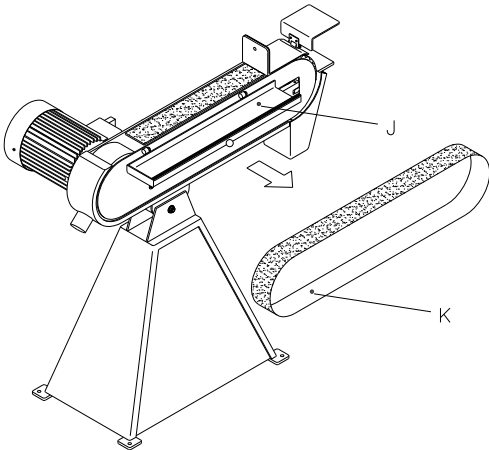

Fig.: 2.1
When changing the belt it is released by turning the handle (I) in anti-clock-wise direction (see *fig.: 2.1*), the cover (J) is opened and the worn-down belt (K) is removed by driving the belt against the direction of rotation, and the belt is removed from the machine by the drive wheel. The new belt is fitted. It must be checked that the direction of the arrows on the back side of the belt correspond to the direction of rotation. The handle (I) is turned clockwise until grinding belt is tightened. Check for alignment by turning the grinding belt by hand and adjust with handle (D)